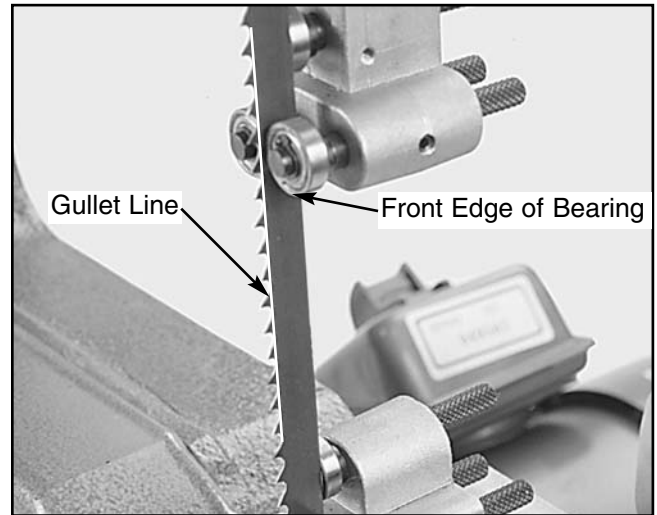

Figure 11. Bearing set back from gullet line $\frac{1}{8}$ ".
3. Push or pull the shafts so the front of the bearing case is $\frac{1}{8}$ " behind the gullet line of the blade. **Figure 11.**